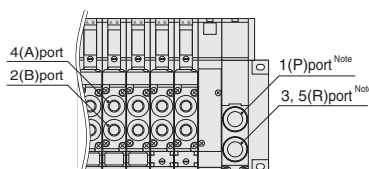

Figure 11 Note: Caution should be exercised that the positions of the 1(P) and 3, 5(R) ports are reversed from their positions in the F10 and F15 series.
2. Perform piping carefully in regards to the locations of each connection port (see Figs. 11, 12).